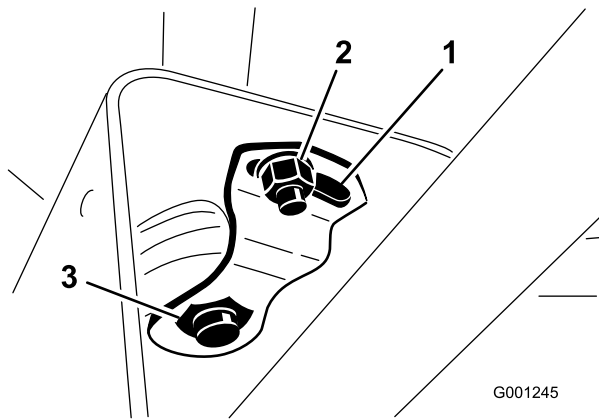

Figure 70
2. Slide the cover up the steering shaft to expose the pivot bracket (Figure 70).
3. Loosen the small nut and rotate the pivot bracket until it tightens the large nut below it (Figure 70).